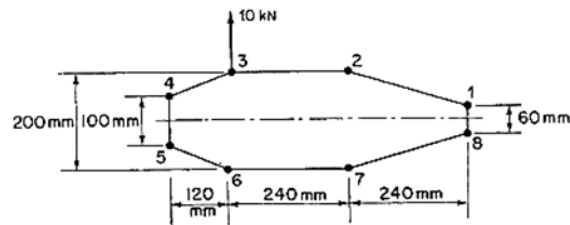

Figure 3
8. (a) The thin-walled single cell beam shown in Figure 3. has been idealized into a combination of direct stress carrying booms and shear stress only carrying walls. If the section supports a vertical shear load of 10 kN acting in a vertical plane through booms 3 and 6, calculate the distribution of shear flow around the section $B_1 = B_8 = 200\text{mm}^2$, $B_2 = B_7 = 250\text{mm}^2$, $B_3 = B_6 = 400\text{mm}^2$, $B_4 = B_5 = 100\text{mm}^2$ [7M]